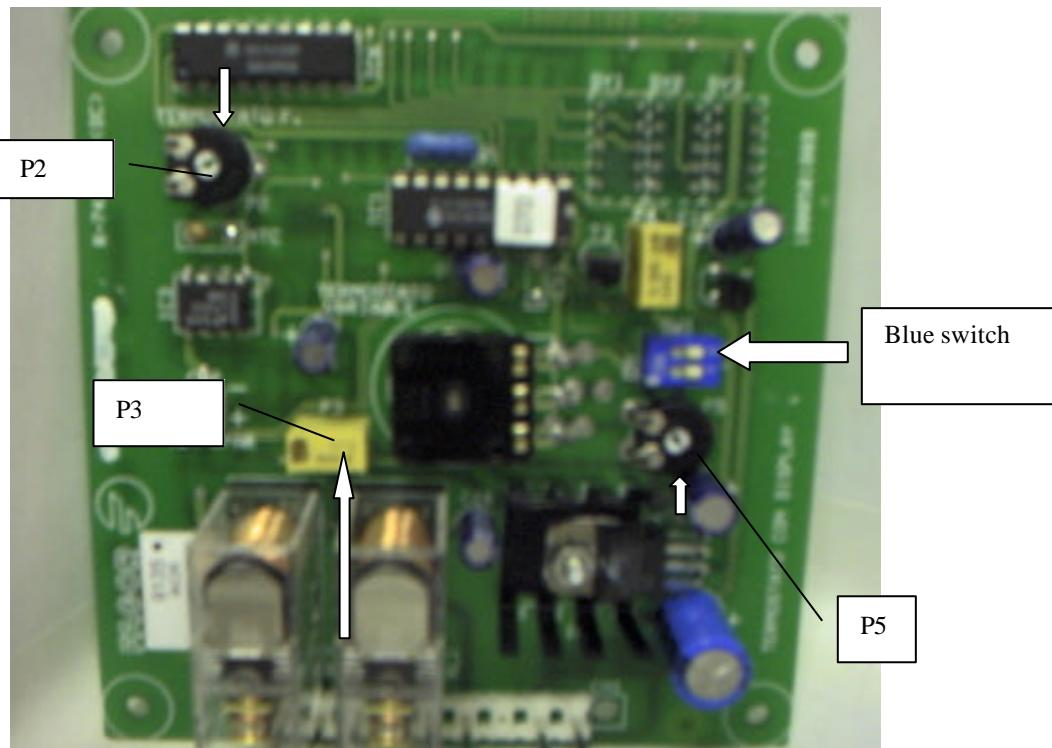

fig 54
- With DOWN (5) move parameters until (3) "PSE" appears on display. (fig 54)
- With SET held down, press “UP” to choose “Cr” parameter on display for K-type thermocouple. (fig 54)